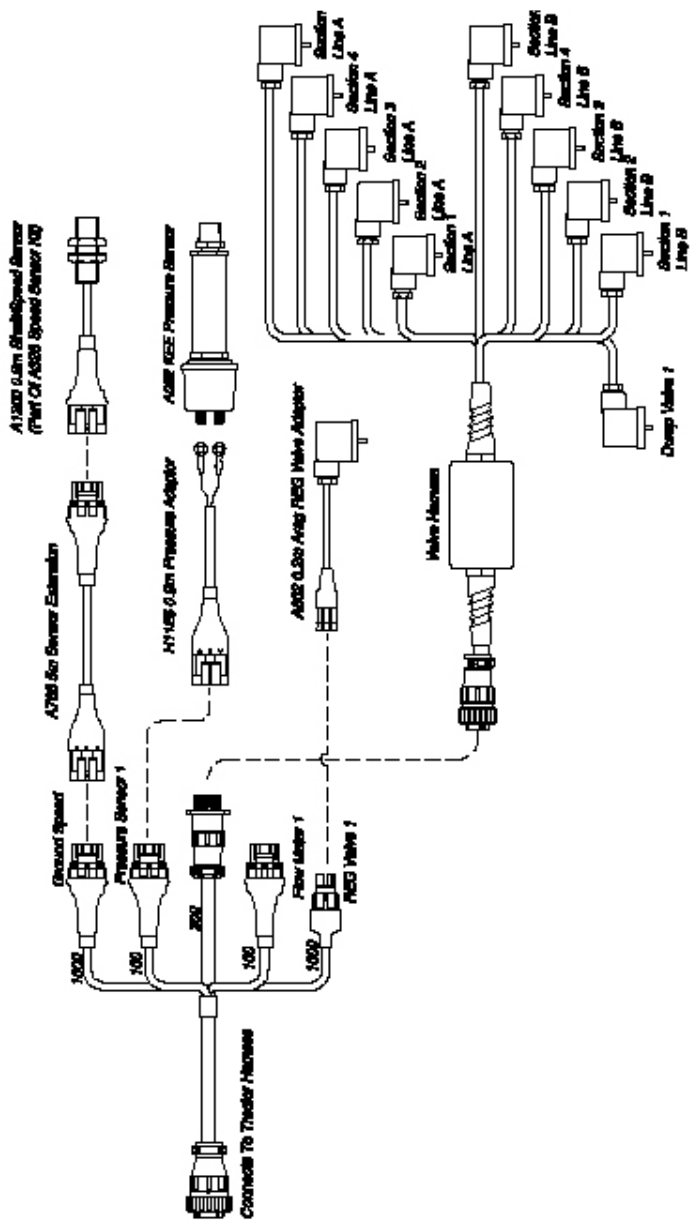

Figure 5-5. General Sprayer and Valve Harness assembly
Figure 5-5 on page 5-10 shows the Sprayer Harness and Valve Harness Assembly.
The typical Sprayer Harness has 5 connectors (Figure 5-5 on page 5-10), which are labelled:
1. Connect the Flow Meter 3-Pin Connector to the 3-Pin connector marked Flow Meter 1 on the Sprayer Harness (Figure 5-5 on page 5-10)
1. Connect the Regulator Valve's 2-Pin connector to the 2-Pin connector marked REG Valve 1 on the Sprayer Harness (Figure 5-5 on page 5-10), using the Regulator Valve Adaptor Harness (A802) (Figure 5-5 on page 5-10)
1. Mount the Pressure Sensor (A092) (Figure 5-5 on page 5-10) either upright or horizontally and support the Brass Gauge saver
To properly measure Spray Line operating pressure the Pressure Sensor must be positioned between the Flow Meter and the Section Valves (Figure 5-5 on page 5-10).
2. Connect the Pressure Adaptor Harness (H1125) to the connector labeled Pressure Sensor 1 on the Sprayer Harness (Figure 5-5 on page 5-10)